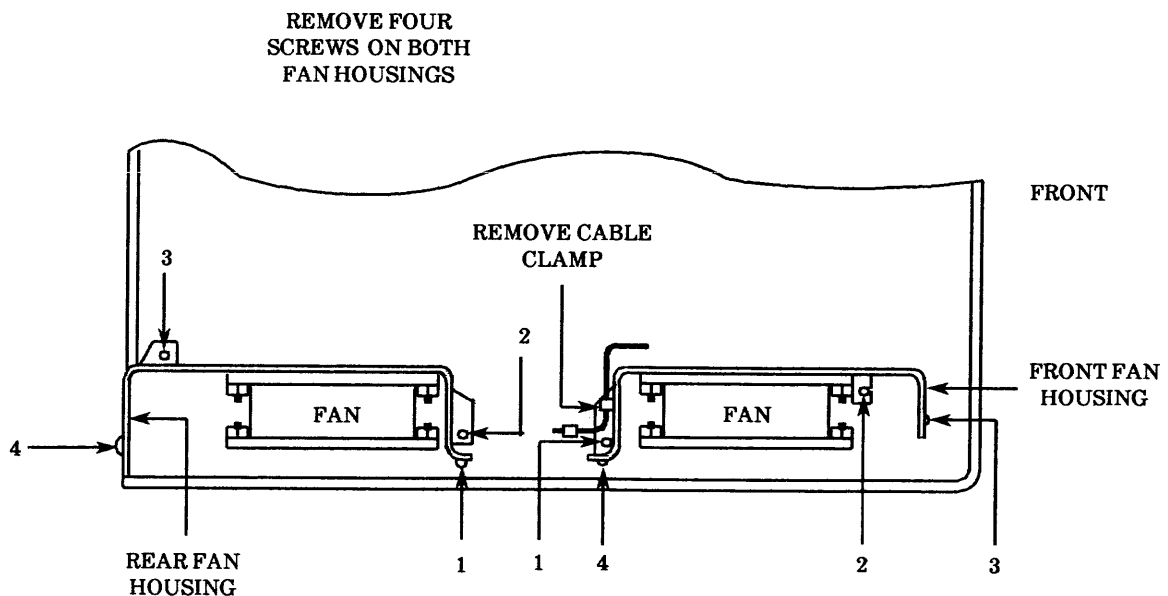

Figure 3-11. Front and Rear Fan Removal
2. Referring to Figure 3-11, remove the screw holding the AC cable clamp to the fan housing, then remove the four screws holding the front fan housing to the chassis base. Note the position of the ground lug.
2. Referring to Figure 3-11, remove the four screws holding the rear fan/AC distribution housing to the chassis base.